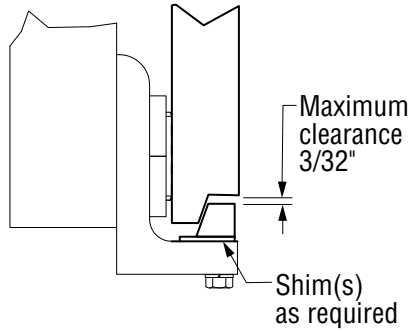

Figure 3-6, Lower Hook Clearance
5. Install the bolt-on lower hooks, if applicable. Inspect clearance to the carriage on lower hooks. Adjust the lower hooks for a maximum clearance of **3/32"** (see Figure 3-6). Tighten the bolts to **40-50 ft-lbs**.